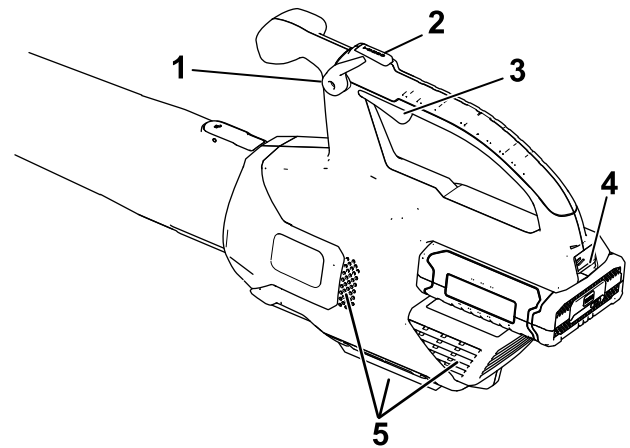

Figure 5
2. To start the blower, squeeze the variable-speed trigger (Figure 5).
**Note:** Engage the speed lock to keep the machine on without pressing the variable-speed trigger (Figure 5).
To accelerate the blower speed, press and hold the turbo boost button for the desired amount of time (Figure 5).
To adjust the air speed as you blow, use the variable-speed trigger (Figure 5).
To maintain the current air speed, engage the speed lock (Figure 5).
To shut off the blower, disengage the speed lock (if in use) and release the variable-speed trigger (Figure 5).